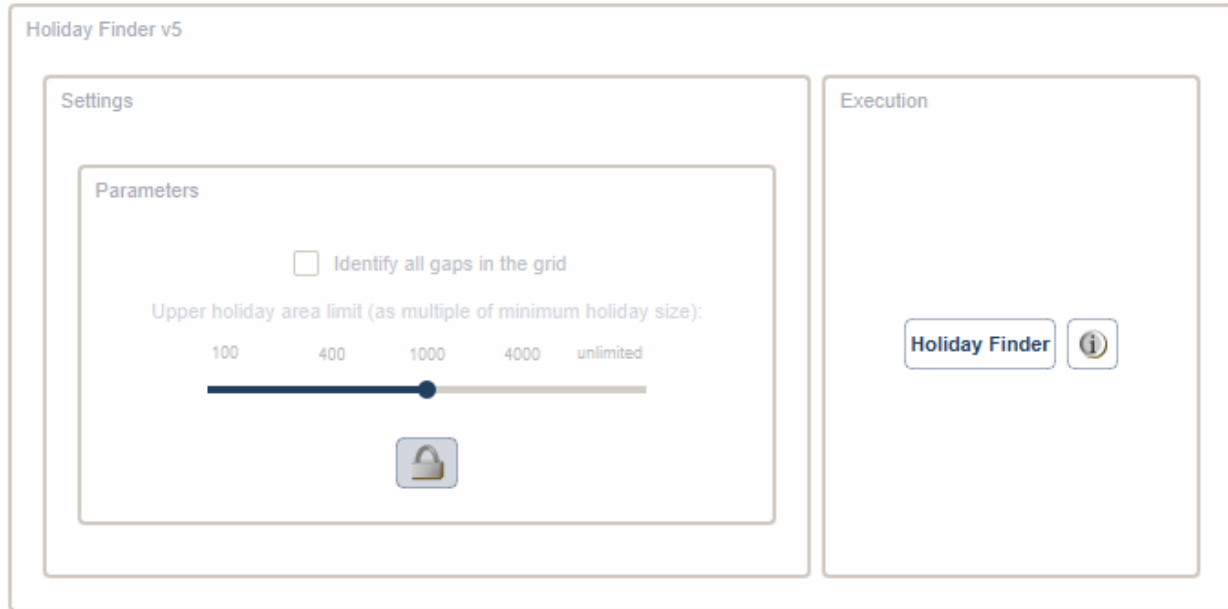

Fig. 2.18: The **Holiday Finder** tab.
- Select the **Holiday Finder** tab (Fig. 2.18) on the bottom of the QC Tools interface.